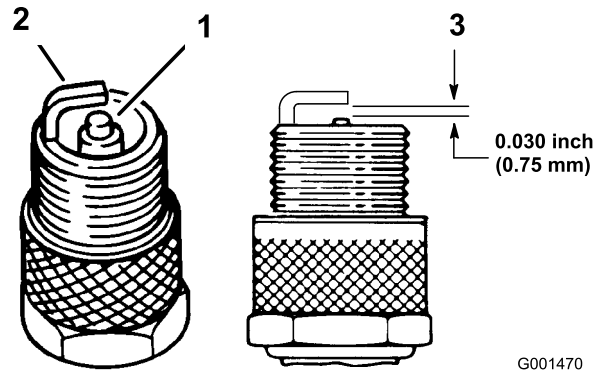

Figure 25
2. Check the gap between the center and side electrodes (Figure 25). Bend the side electrode (Figure 25) if the gap is not correct.
1. Look at the center of the spark plugs (Figure 25). If you see light brown or gray on the insulator, the engine is operating properly. A black coating on the insulator usually means that the air cleaner is dirty.
3. Connect the wires to the spark plugs (Figure 25).